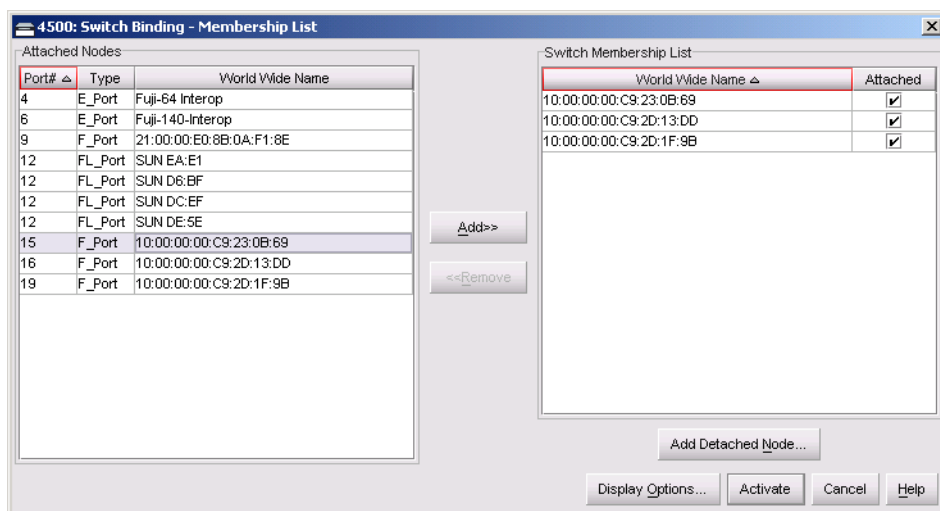

Figure 3-38 Switch Binding - Membership List Dialog Box
- a. At the *Hardware View* (Figure 3-10 on page 3-20) for each switch, click *Configure* and select *Switch Binding* and *Edit Membership List*. The *Switch Binding - Membership List* dialog box displays (Figure 3-38).